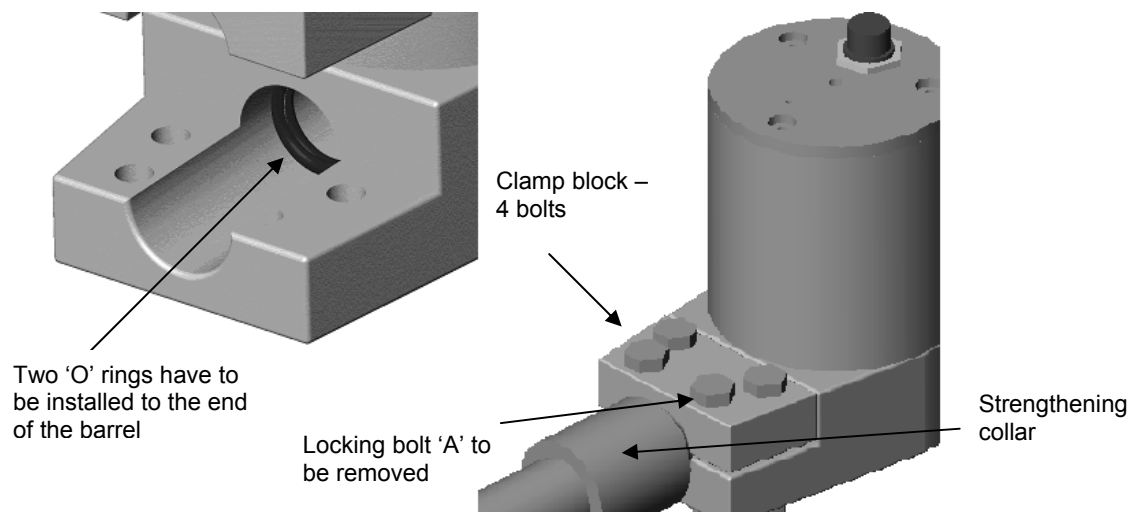

Figure 2 - Installation of sensing arm into sensor body
An additional feature with the longer (700mm) sensing arm is a reinforcing collar that fits over the top of the arm, see Figure 2. This is included to increase the strength of the arm.
- Loosen the 4 arm clamp bolts on the electronics body and remove the locking bolt (A).
- Fit the two 'O' rings. These need to be located inside the clamp blocks up against the step as shown in Figure 2